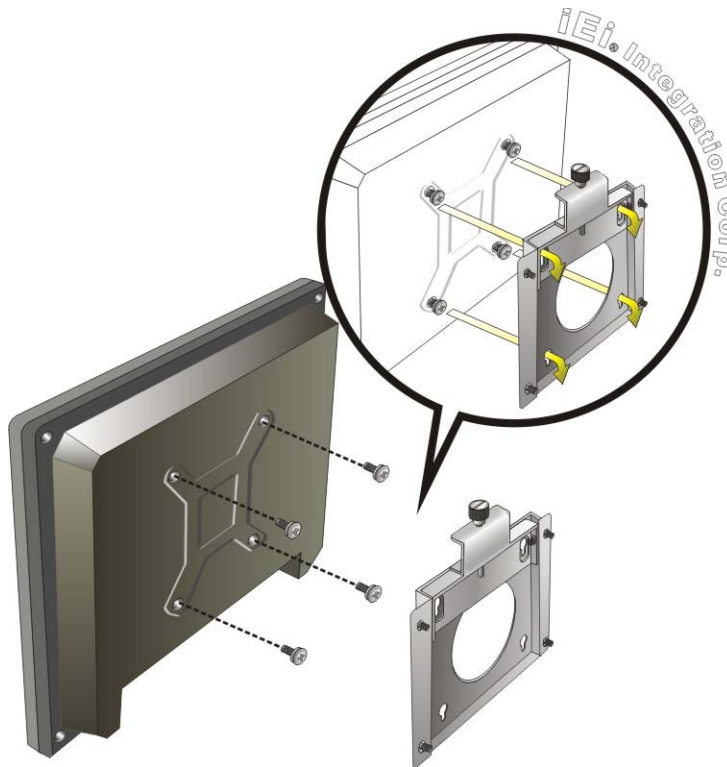

Figure 3-18: Chassis Support Screws
- Step 6:** Insert the four monitor mounting screws provided in the wall mounting kit into the four screw holes on the rear panel of the flat panel PC and tighten until the screw shank is secured against the rear panel (**Figure 3-18**).
- Step 8:** Carefully insert the screws through the holes and gently pull the monitor downwards until the monitor rests securely in the slotted holes (**Figure 3-18**). Ensure that all four of the mounting screws fit snugly into their respective slotted holes.